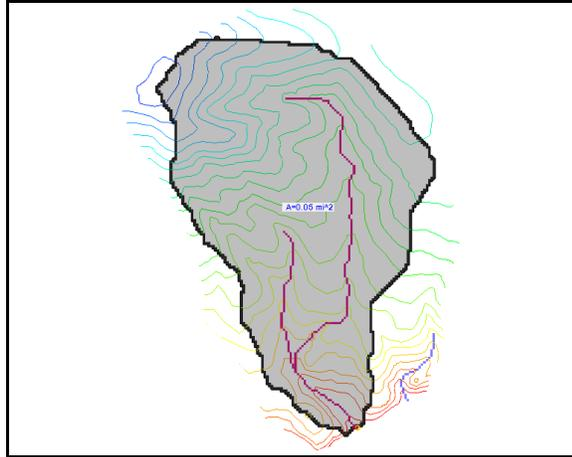

Figure 10 The drainage basin is now visible
- A drainage boundary based on the DEM and drainage basin data is visible (Figure 10).